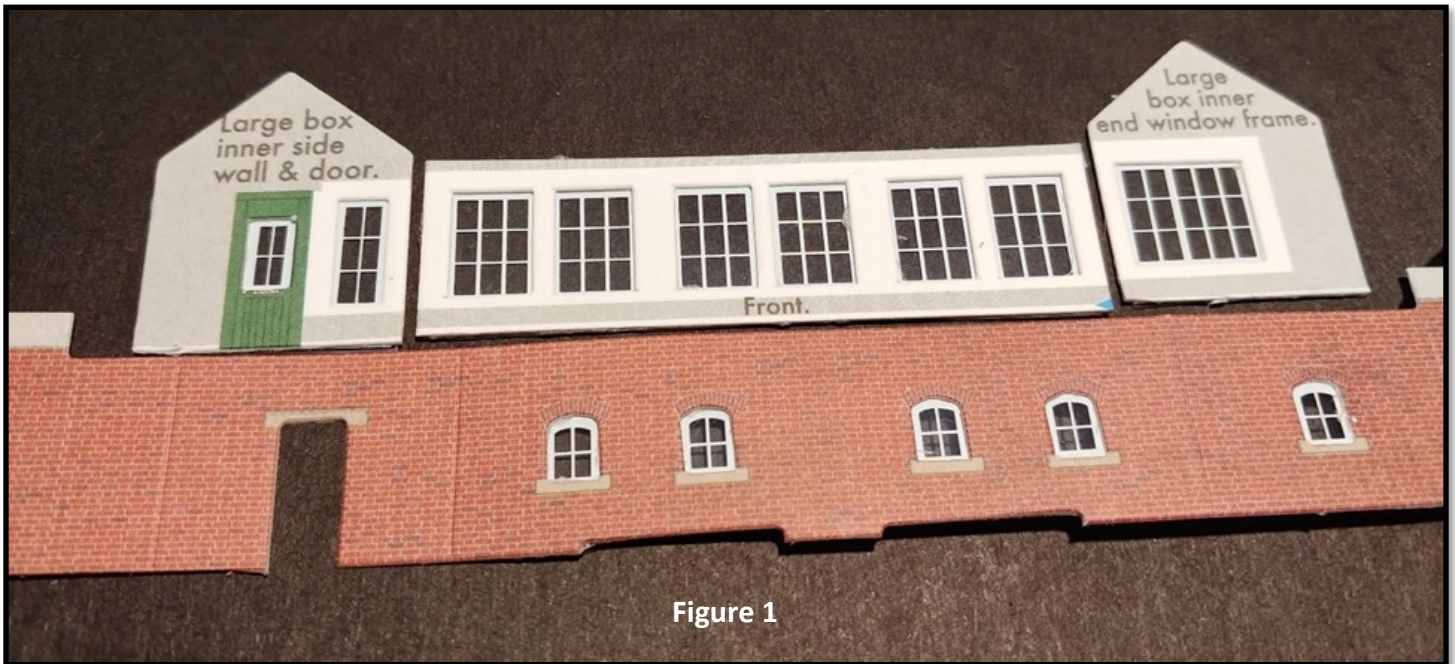

Figure 1
**Figure 1** shows the upper and lower sections with installed glazing. If you look closely you will see little gobs of glue in a few places. I was able to remove them with tweezers when they dried. And, the alignment was a little off on the brick wall. I am learning how fast the glue sets.